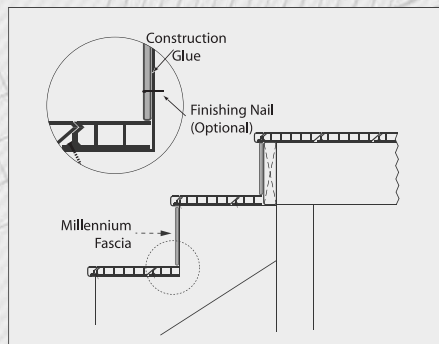

Figure 7: Decorative Fascia
3. Install the fascia with construction adhesive, clamping until the glue has set. (See Figure 7). If clamping is not possible, drill small pilot holes and use 1-1/4" to 1-1/2" corrosion resistant finishing nails to secure the fascia into place.